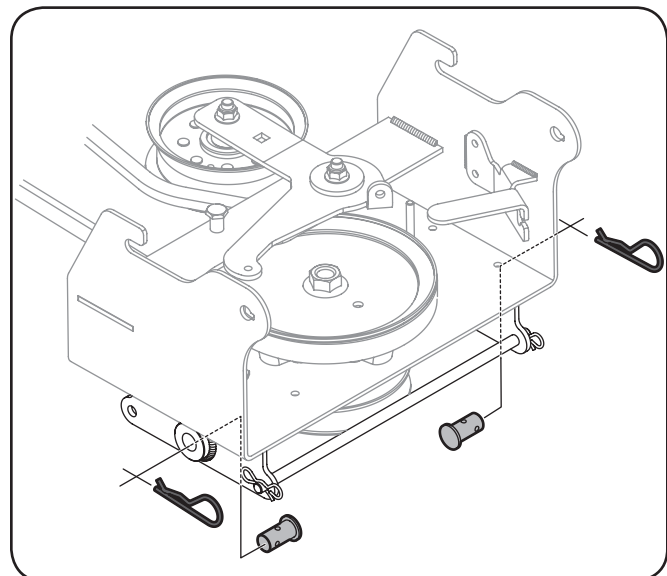

Figure 3-3
- Remove the clevis pins and hairpin clips from the carriage assembly. Retain the clips and pins, as they will be used to attach components in later steps. See Figure 3-3.